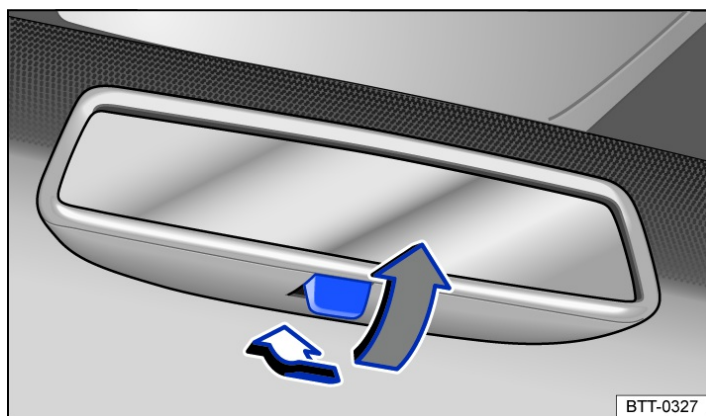

Fig. 2 On the windscreen: manual anti-dazzle interior mirror.
- Pull the lever back to select the anti-dazzle function → *Fig. 2*.